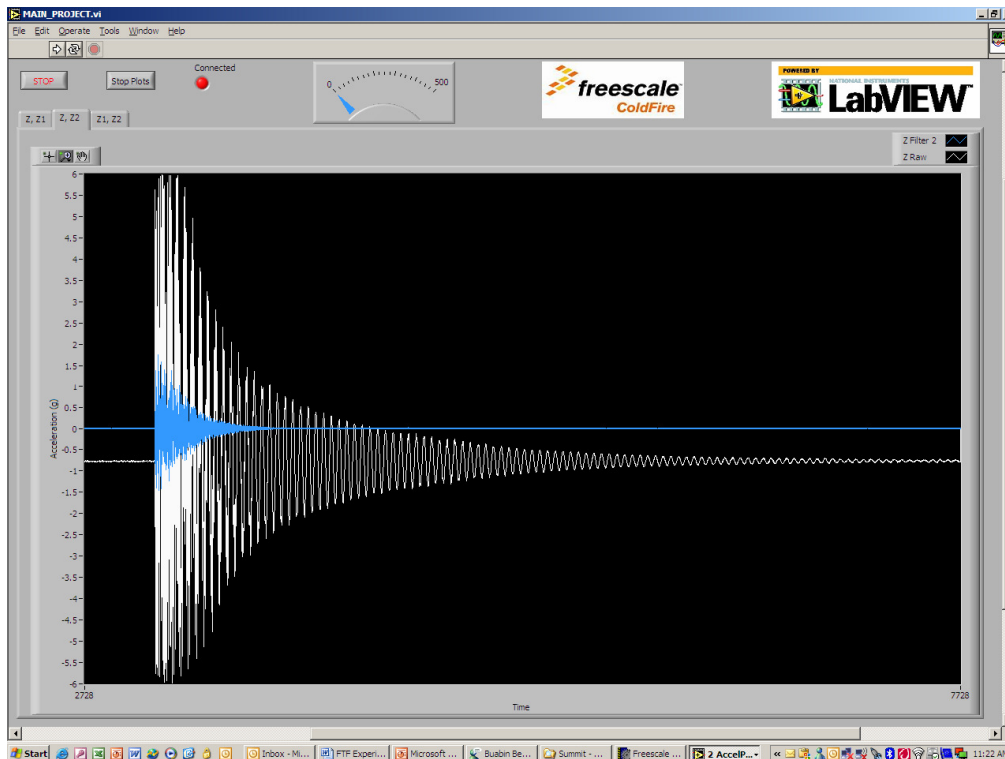

Figure 4b: Measured and band pass filtered signal
- k. The tab labeled “Z, Z2” displays the raw signal and the band pass filtered signal (Figure 4b).